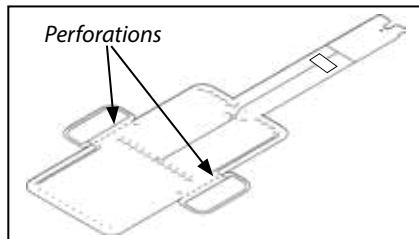

Figure 14 - Perforations
**Note:** Take care that the perforated adhesive flanges are not damaged. If they are, there is risk that the circuit might be broken and TS Matrix will require replacement. (Figure 14)